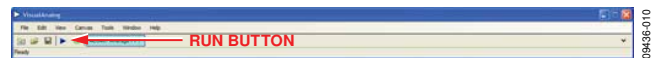

Figure 10. VisualAnalog Window Toolbar, Run Button
3. Click the **Run** button in the VisualAnalog toolbar (see Figure 10).